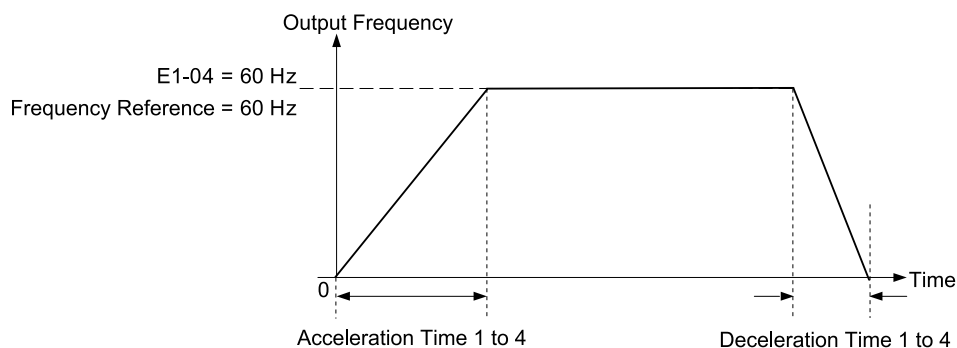
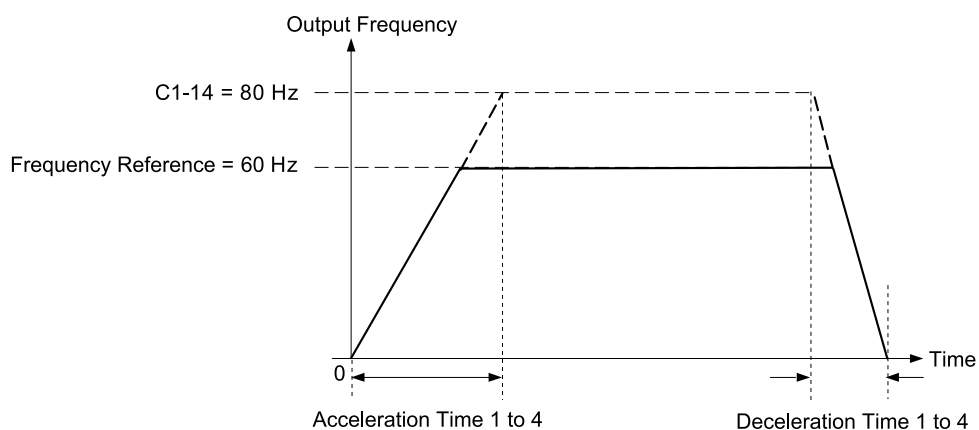

Figure 12.45 Example 1: Acceleration/Deceleration Rate (When C1-14 = 0 Hz, E1-04 = 60 Hz, and the Frequency Reference is 60 Hz)
Figure 12.47 Example 3: Acceleration/Deceleration Rate (When C1-14 = 80 Hz, E1-04 = 60 Hz, and the Frequency Reference is 60 Hz)
- Figure 12.45 to Figure 12.47 show the accel/decel times when C2-01 to C2-04 [S-Curve Times @ Start/End of Accel/Decel] = 0.00 s.